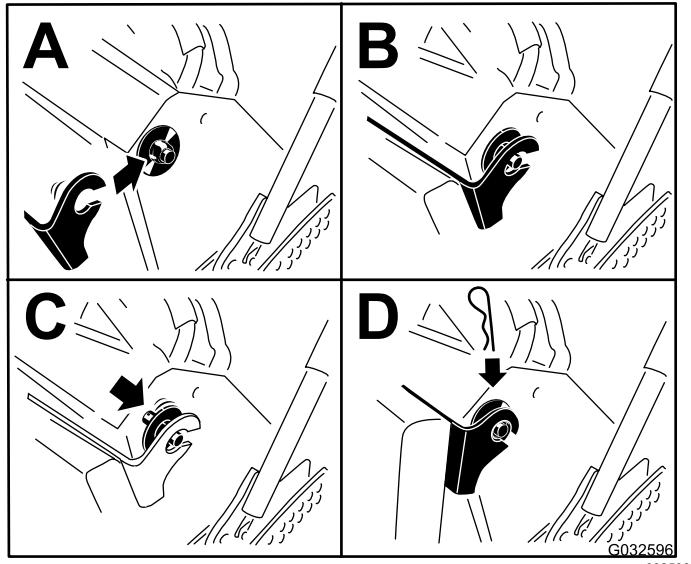

Figure 34
6. Raise the cushion and slide it onto the pins on both sides of the machine (Figure 34).
7. Slide the large washers with plastic bushings into the cushion bracket and secure them with a hairpin-cotter pin (Figure 34).